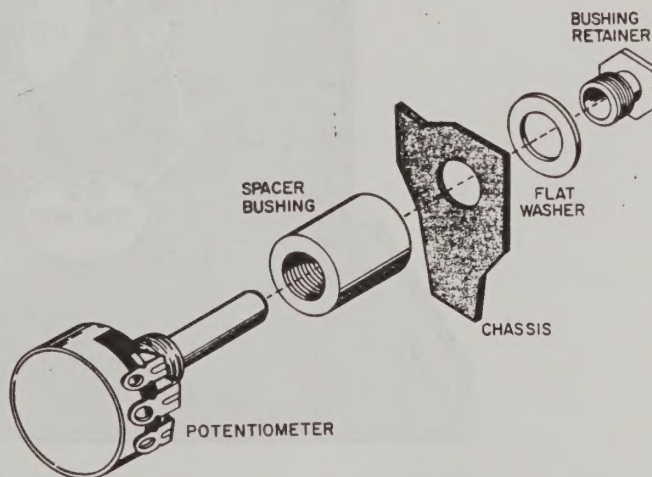

FIGURE 5. MOUNTING THE POTENTIOMETER
- ☐ Note that R-5, the 500 Ω potentiometer, has three *dummy* terminals marked with *color dots*. Mount R-5 following the assembly details shown in Figure 5. Position the dummy terminals so that they face the three pin jacks.